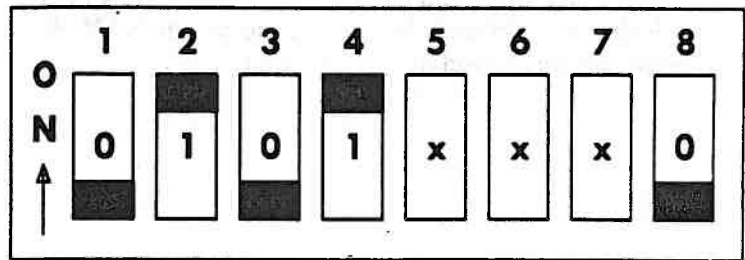

Figure 3-15. DIPSW-0 Setting for 640-KB Total Memory in System (256 KB on Motherboard, 384 KB on Memory Expansion Board)
9. On DIPSW-0, set switches 1, 2, 3, and 4 (Figure 3-15).